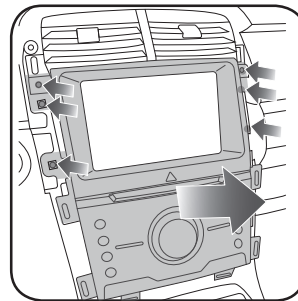

Fig. 1.3
3. Remove six (6) 7mm screws holding the radio and climate control panel. (Fig. 1.3)
4. Use a panel removal tool to unclip and release the radio and climate panel from the dash. (Fig. 1.3)
5. Remove four (4) 7mm screws holding the radio body. Unplug and remove the OEM radio. (Fig. 1.3)